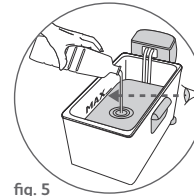

fig. 5
- Fill the bowl with oil – fig. 5.
- Never exceed the maximum level indicated in the bowl – fig. 5.